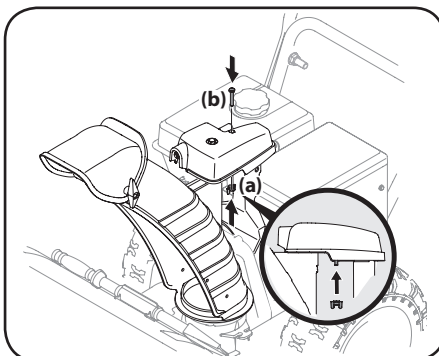

Figure 2-32
3. Finish securing chute control assembly to chute support bracket with wing nut (a) and hex screw (b) removed in Step 1. See Figure 2-32.